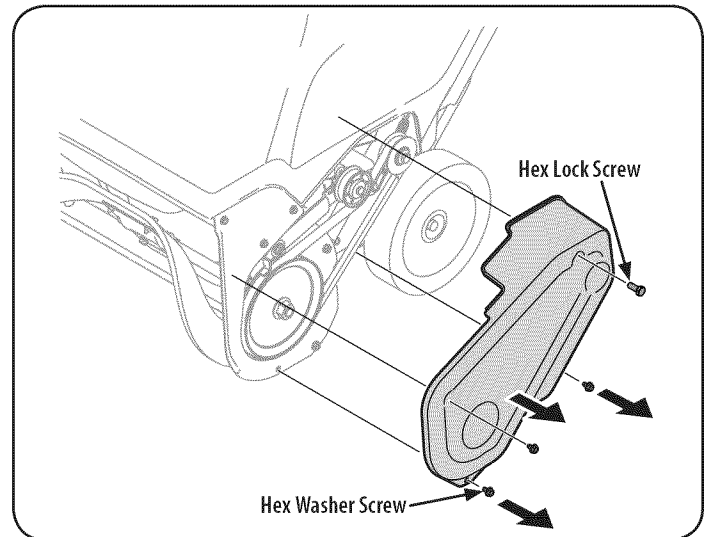

Figure 19
4. Remove the belt cover by removing the three hex washer screws and one hex lock screw that secure it to the frame. See Figure 19.